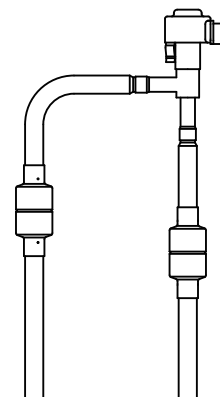

Figure 3-2
1. When the AHU control box's EEV remains with the AHU control box, the AHU control box must be installed vertically, as shown in Figure 3-2.
2. When the AHU control box's EEV is split from the AHU control box, the AHU control box can be installed vertically or horizontally, but the split EEV must be vertical, as shown in Figure 3-2.